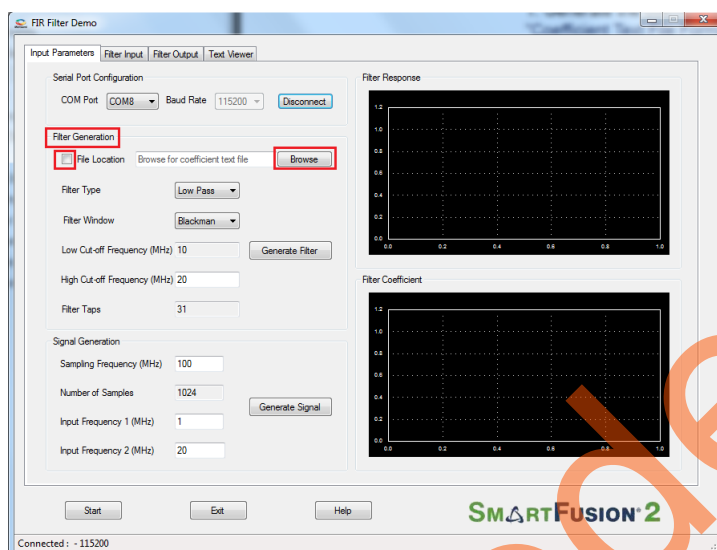

Figure 11 • Filter Generation - 1
- Generate the coefficients using MATLAB or any similar tool and save it as a text file (Refer "Appendix 3 - Coefficient Text File Format" for the format of the text file). The GUI can be used to browse and load this file as shown in Figure 11.